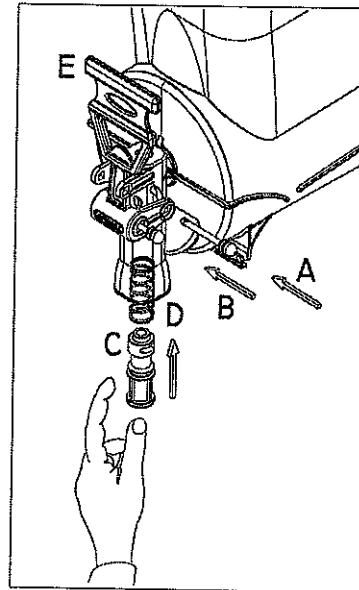

Fig.24
- 2) Lubricate the tap valve C with the vaseline supplied with the machine and push it into the product supply hole along with the spring D then insert the rotation pin A. (Fig . 24)